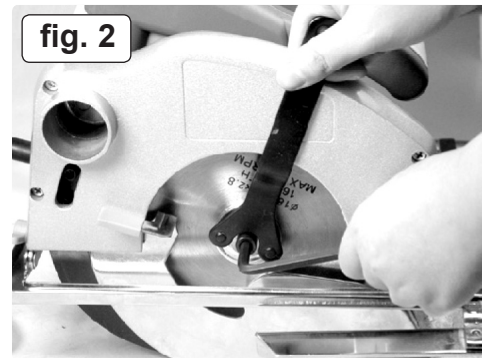

fig. 2
- 3.1.7 Place the blade wrench onto the outer flange nut to prevent the blade turning then insert the hex key into the blade bolt and loosen it by rotating the key anticlockwise as shown in fig.2.